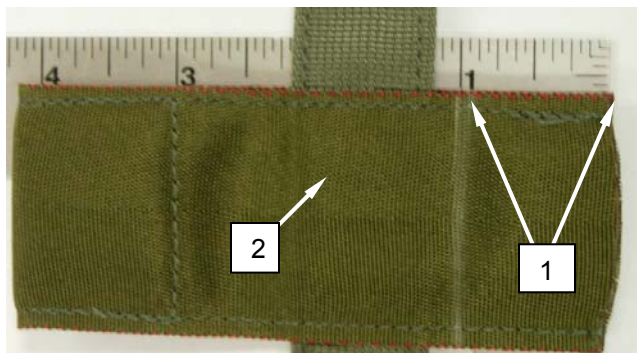

Figure 22. Mark Tuck Tab Assembly.
13. Mark the tuck tab assembly 1 inch from the bottom edge (Figure 22, Item 1) and opposite end from the tuck tab stiffener, (Figure 22, Item 2) using a ruler and contrasting marking device. This will help in proper placement of the tuck tab assembly on the upper main lift web assemblies.